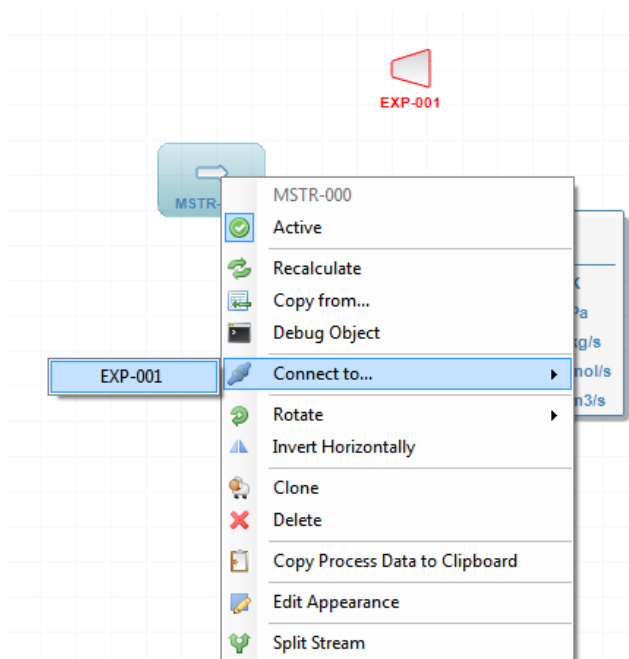

Figure 18: Selected object context menu.
- Through the context menu activated with a right mouse button click over the object (Figure 18);
**Removing objects from the flowsheet** The selected object can be removed from the flowsheet by pressing the DEL keyboard button or by using the context menu - "Delete" item (Figure 18).